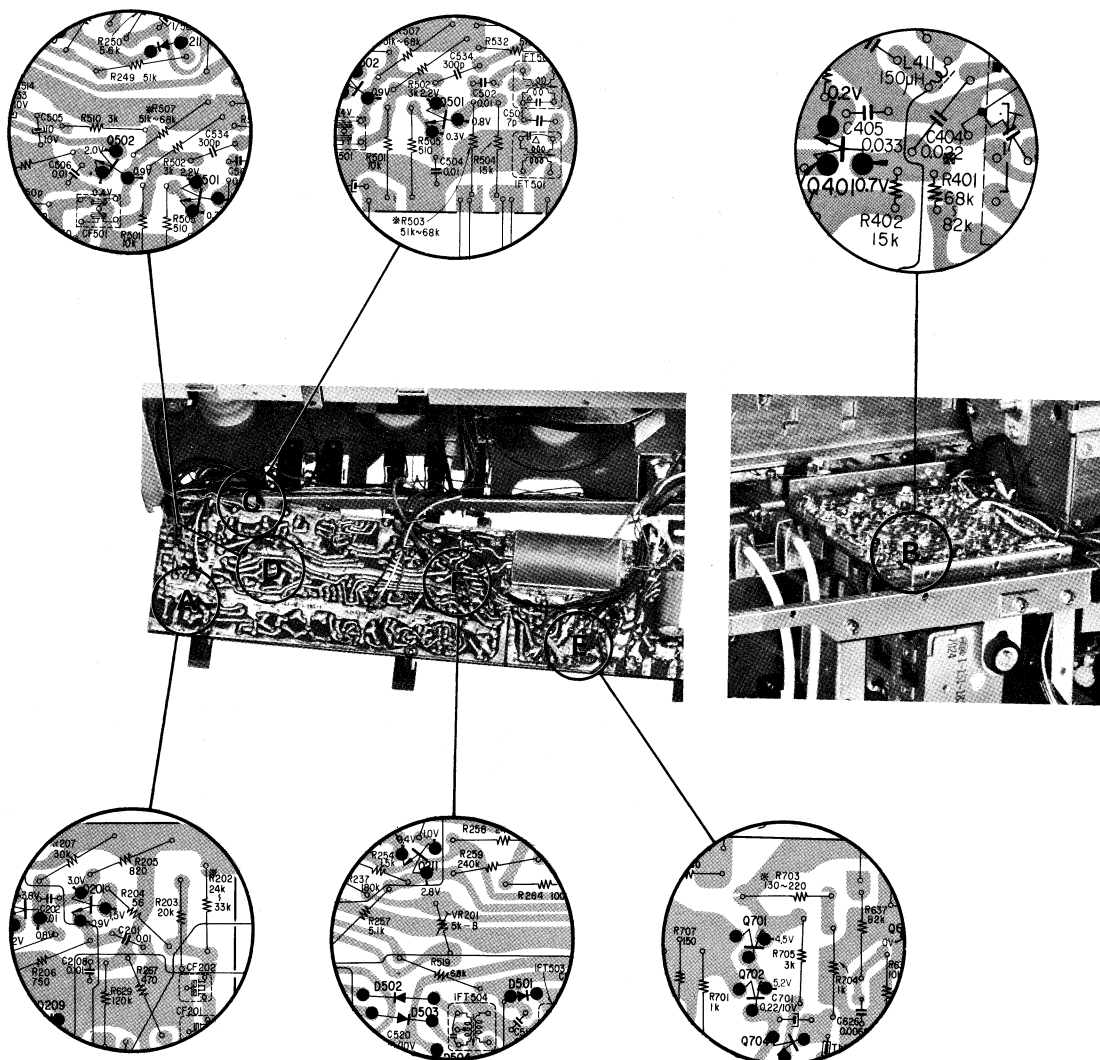

Fig. 3-18 Adjustment locations for voltage and current adjustment
Locate R202 from Fig. 3-18.
Locate R401 from Fig. 3-18.
Locate R503 from Fig. 3-18.
Locate R507 from Fig. 3-18.
Locate R703 from Fig. 3-18.
3. Adjust the adjustable resistor VR201 (5 k $\Omega$ ) so that the meter indicates between 8 and 9. Locate VR201 from Fig. 3-18.